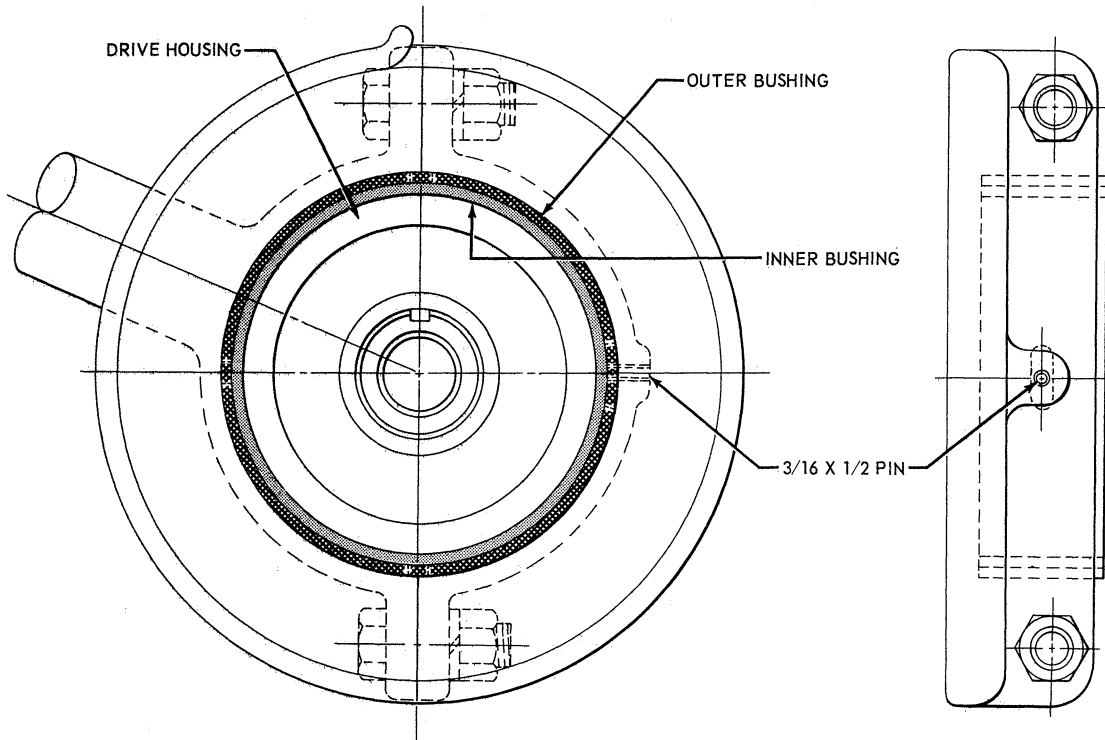

Figure 34
17. Install the outer half of the rear collar so the pin, Part No. 67732-S, is in the 3/4" slot of the outer bushing. See Figure 34. If the pin pushes outward in the collar, the bushing is not properly aligned and the pin has not entered the slot. The